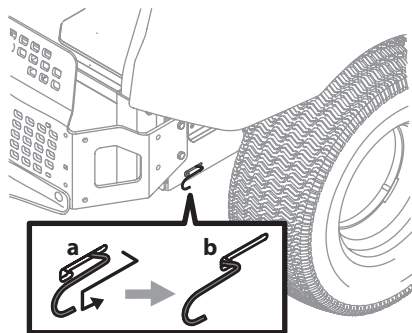

Figure 1
1. Engage the transmission bypass rods, one on each side of the mower, to move the mower manually without starting it. The transmission bypass rods are located on the rear of the mower, just inside each rear wheel. Disengage the park brake and engage the bypass rods by pulling each one back (a) and hooking it into the slot (b) to lock it into place. See Figure 1.
2. Disengage the bypass rods by reversing Steps a & b after moving the mower. See Figure 1.